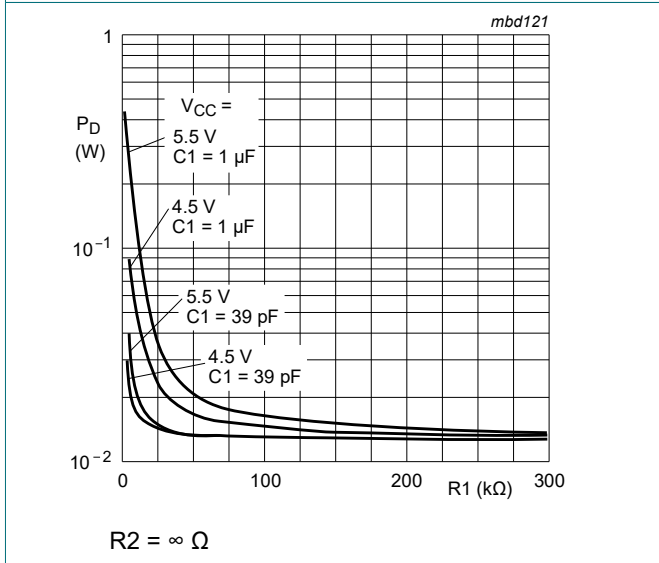
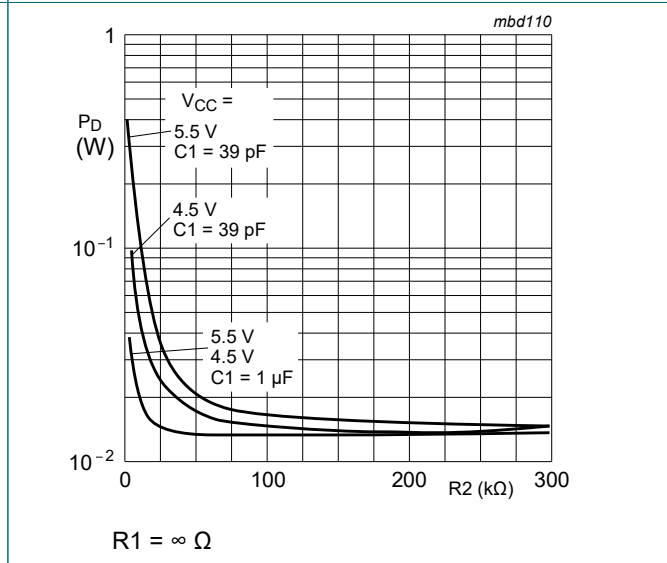
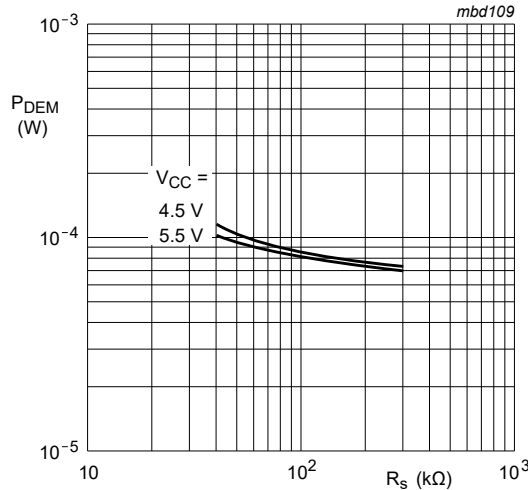

Fig. 28. Power dissipation as a function of R1
Fig. 29. Power dissipation as a function of R2
Fig. 30. Typical power dissipation as a function of R_s
- [6] Applies to the phase comparator section only (pin INH = HIGH). For power dissipation of the VCO and demodulator sections, see Fig. 28, Fig. 29 and Fig. 30.